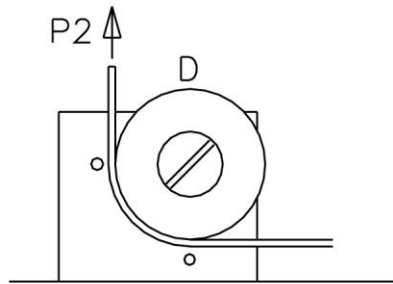

Fig 3
5. Then pass pulley D. (Fig 3)